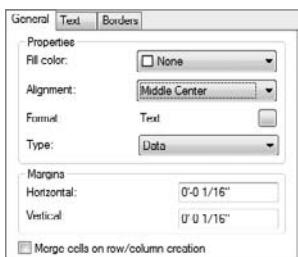

FIGURE 9.62 The General tab of the New Table Style dialog box
- 10.** Change Alignment to Middle Center. The General tab should look like Figure 9.62.